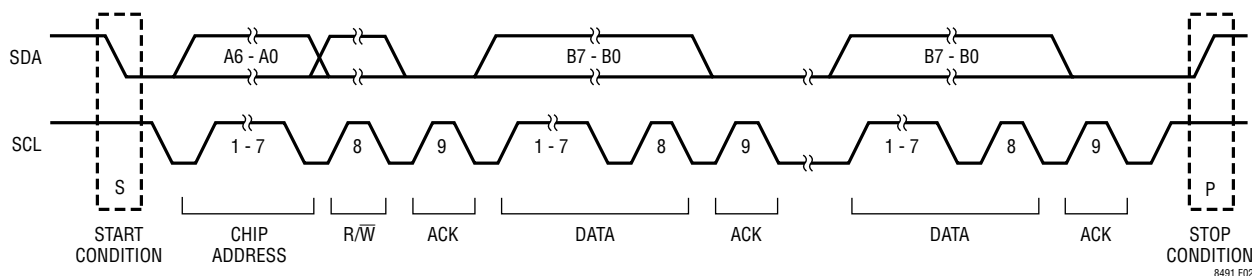

Figure 2. Data Transfer Over I²C Bus
When the bus is idle, both SCL and SDA are high. A bus master signals the beginning of a transmission with a START (S) condition by transitioning SDA from high to low while SCL is high, as shown in Figure 2. When the master has finished communicating with the slave, it issues a STOP (P) condition by transitioning SDA from low to high while SCL is high. The bus is then free for another transmission.